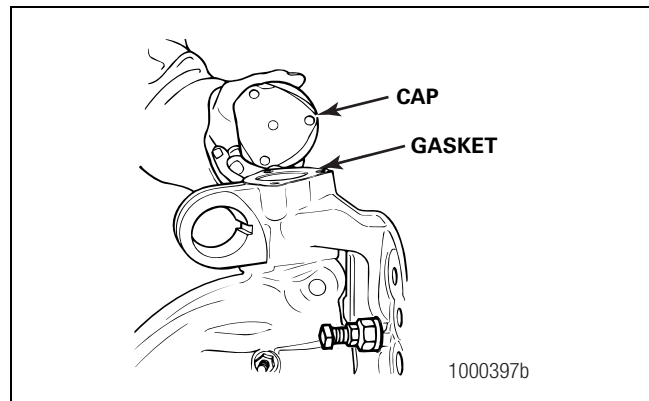

Figure 6.32
1. Install new gaskets and the caps onto the top and the bottom of the knuckle. Install the capscrews and the washers and tighten to 20-30 lb-ft (28-40 N•m). Figure 6.32.